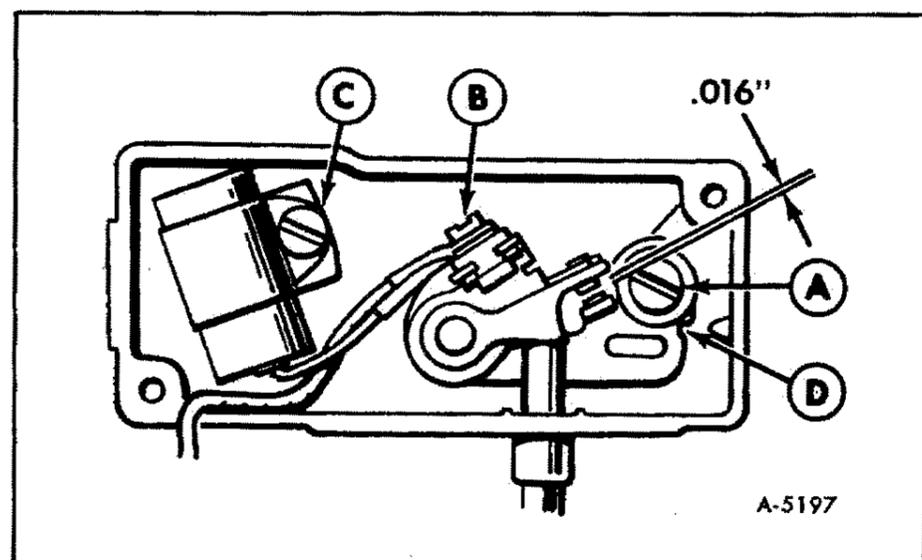
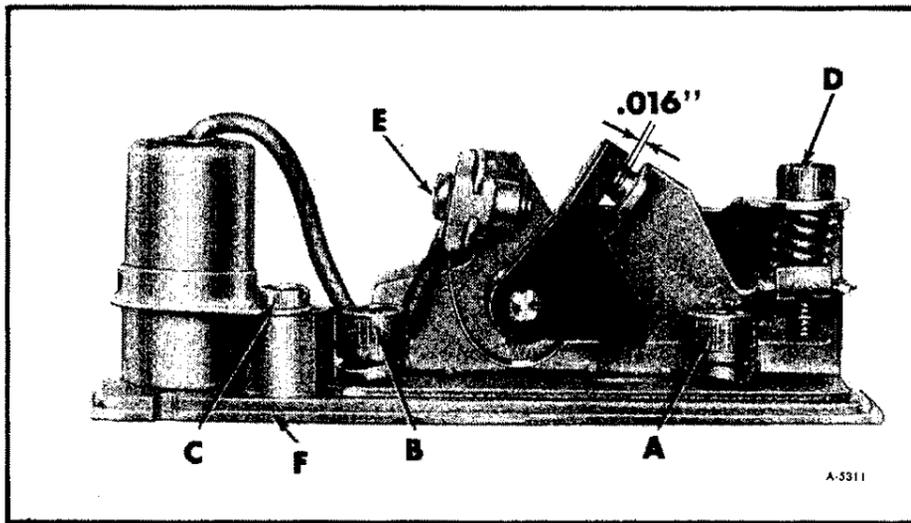

Figure 1—Breaker Point Adjustment—Type 1
Figure 2—Breaker Point Adjustment—Type 2
To maintain maximum efficiency from the Onan unit, check the breaker points every 100 hours and change the breaker points every 200 hours of operation. The breaker point box may be of two types, refer to figure 1 or figure 2. To change the breaker points and set the ignition timing, use the procedure appropriate to particular unit.
7. Rotate engine clockwise (facing flywheel) by hand until  $20^{\circ}$  BTDC mark on flywheel aligns with center of timing access hole. (Note, early units marked at  $25^{\circ}$  BTDC should be set at  $25^{\circ}$  BTDC.) Then, using a screwdriver inserted in notch (D) on the left side of the points (reverse view of figure 1), adjust points until test lamp just goes out (or Ohmmeter reads Infinity). Tighten screw (A).